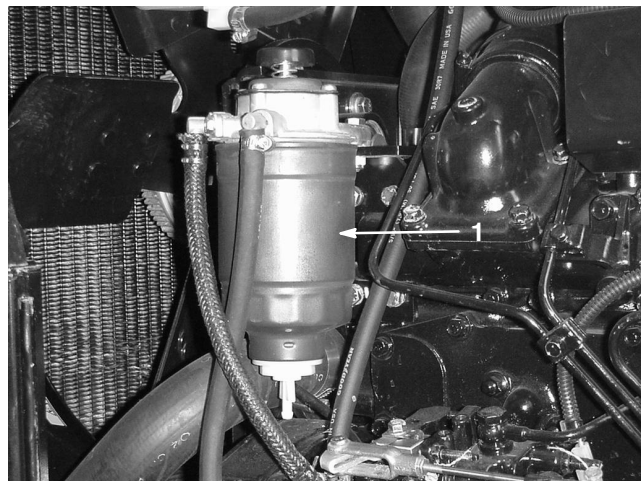

Figure 43
3. Every 200 hours operation, or yearly, replace the filter element in the fuel filter/water separator (Fig. 43) and drain water from the fuel tank. Apply clean fuel oil to the filter O-ring. Use hands only to install and tighten filter.